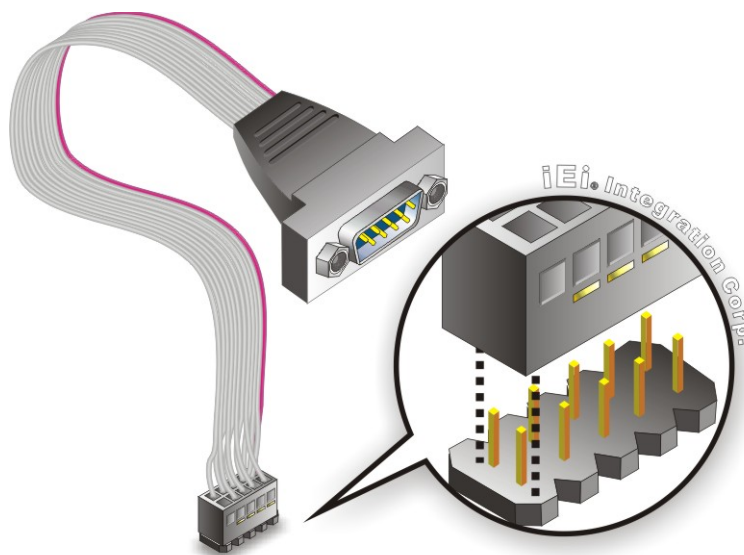

Figure 4-5: Single RS-232 Cable Installation
Step 2: **Insert the cable connector.** Insert the connector into the serial port box header. See Figure 4-5. A key on the front of the cable connectors ensures the connector can only be installed in one direction.